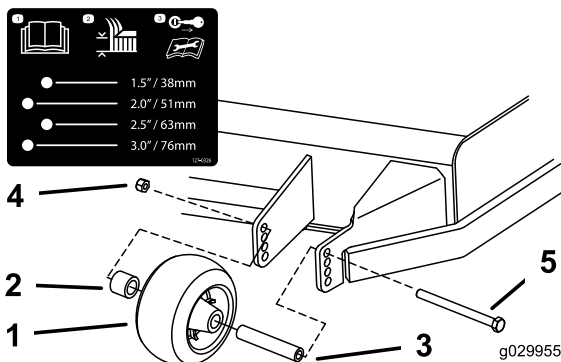

Figure 39
3. Adjust the anti-scalp rollers as shown in Figure 39.